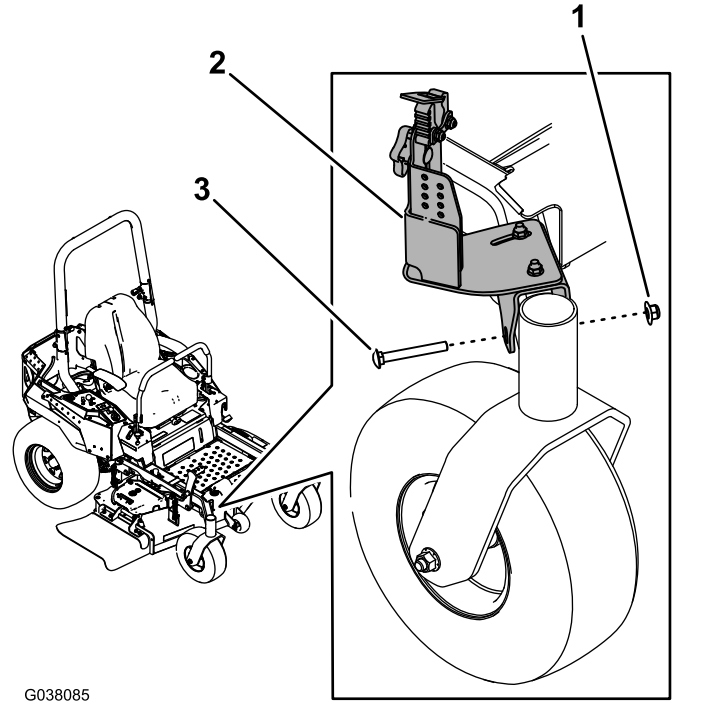

Figure 8
3. Install the front mount assembly over the frame, near the right caster wheel, using the wide-flange nut (3/8 inch) and carriage bolt (3/8 x 3 inches) as shown in **Figure 8**.